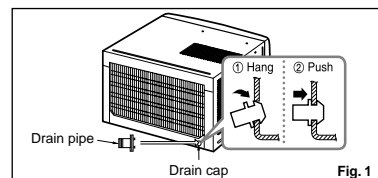

Fig. 1
In humid weather, excess water may cause the BASE PAN to overflow. To drain the water, remove the DRAIN CAP and secure the DRAIN PIPE to the rear hole of the BASE PAN. Press the drain pipe into the hole by pushing down and away from the fins to avoid injury. (See Fig.1)
1. Open the window. Mark a line on center of the window sill (or desired air conditioner location). Carefully place the cabinet on the window sill and align the center mark on the bottom front with the center line marked in the window sill. (See Fig.1)